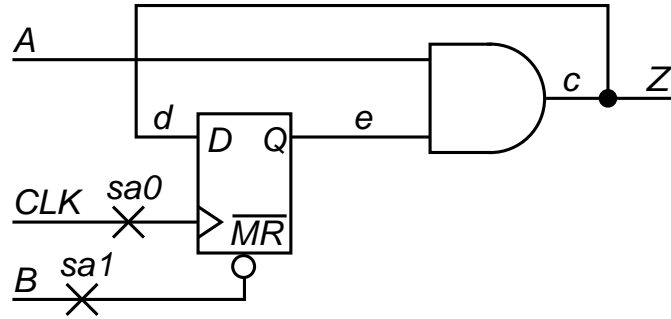

Figure 4: Circuit for Problem 8.25.
8.25 *Potentially-detectable fault.* Derive a test for the *potentially-detectable fault* CLK sa0 in the circuit of Figure 4. Also, derive a test for B sa1 and classify the type of this fault.